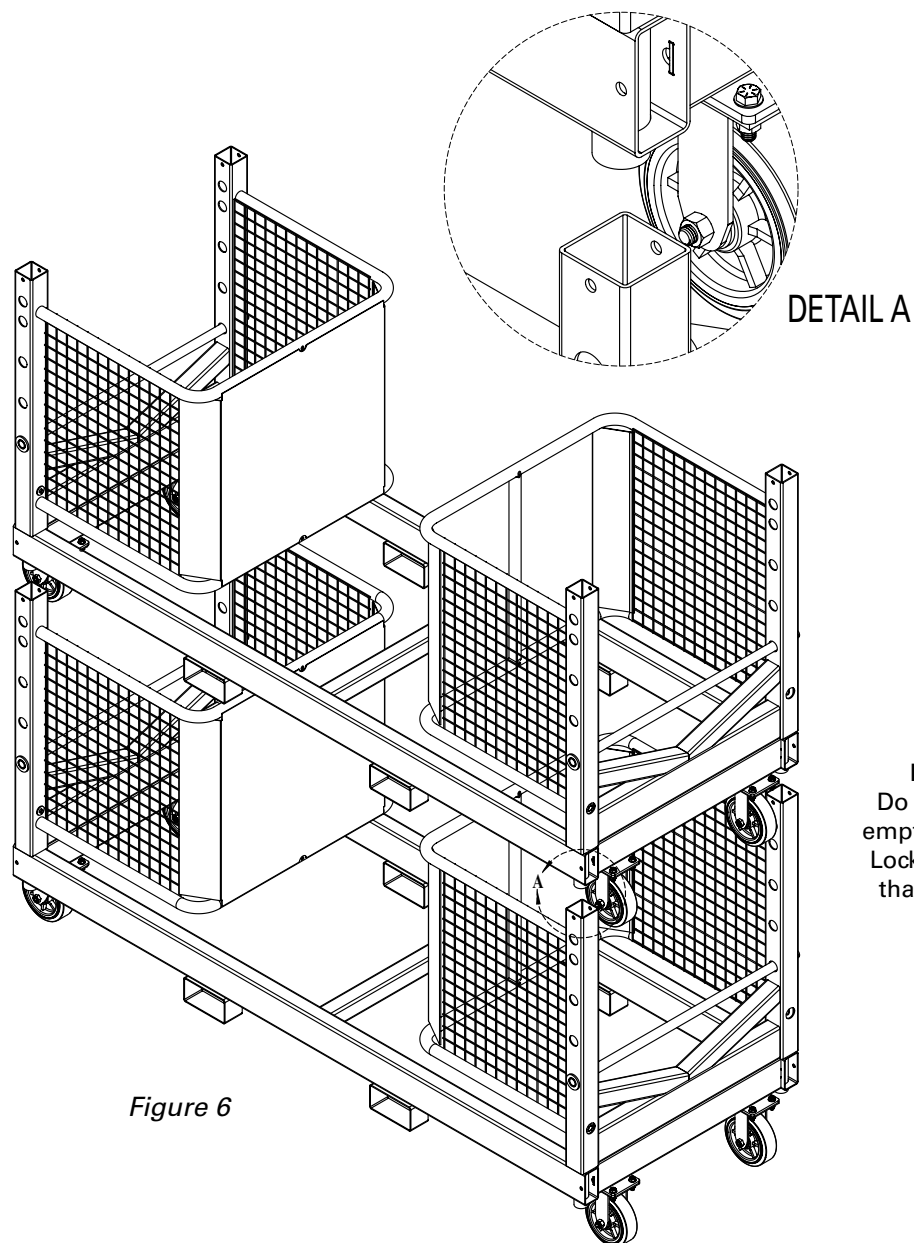

Figure 6
2. Using the forklift pockets provided, lift the Conduit Locker and position it on top of the lower Locker, ensuring that all four of the round aligning tubes on the bottom of the Locker are seated in the four square tubes at the corners of the base Locker. (See Figure 6 below).